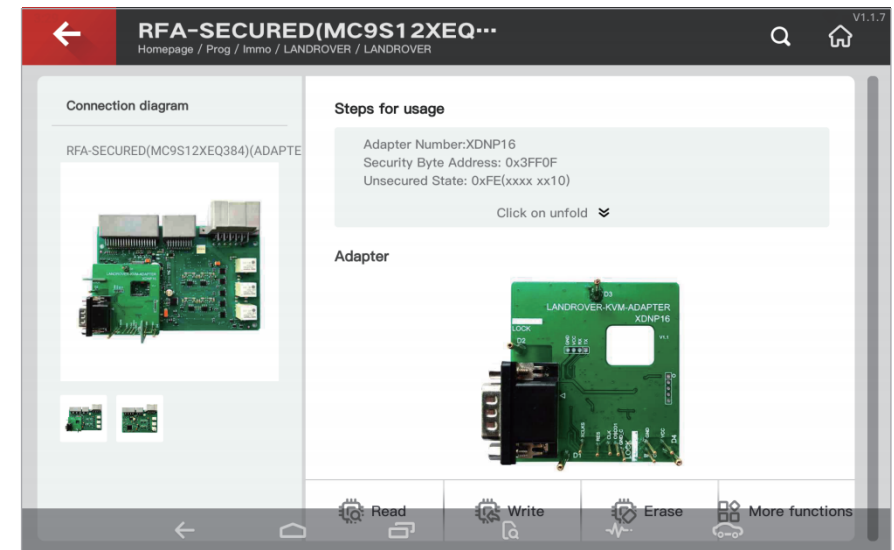

Fig.7.4.1
① Connect the device to Land Rover RFA adapter(Optional), then clip the adapter to Land Rover RFA module as shown in Fig. 7.4.1.